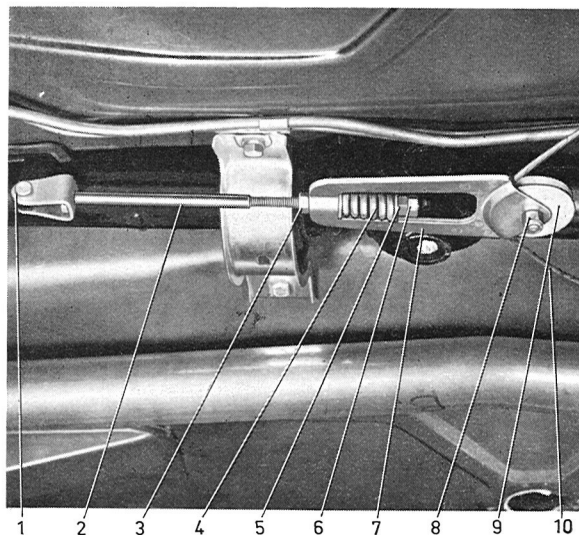

Fig. 5-78. Brake components
6. Apply the parking brake lever and check that full braking effect is obtained on the 3rd—4th notch. If the parking brake can be applied past these notches, the cable should be tensioned. This is done by loosening the lock nuts and screwing in the block (7, Fig. 5-78) on the pull rod. After adjusting, tighten the lock nuts. Check that there is approximately the same braking effect on both rear wheels.
3. Remove the nut (8, Fig. 5-78) and take off the pulley (9) from the block (7).
1. If linings or drums are replaced, slacken the lock nut (6, Fig. 5-78) to remove tension in the cable.